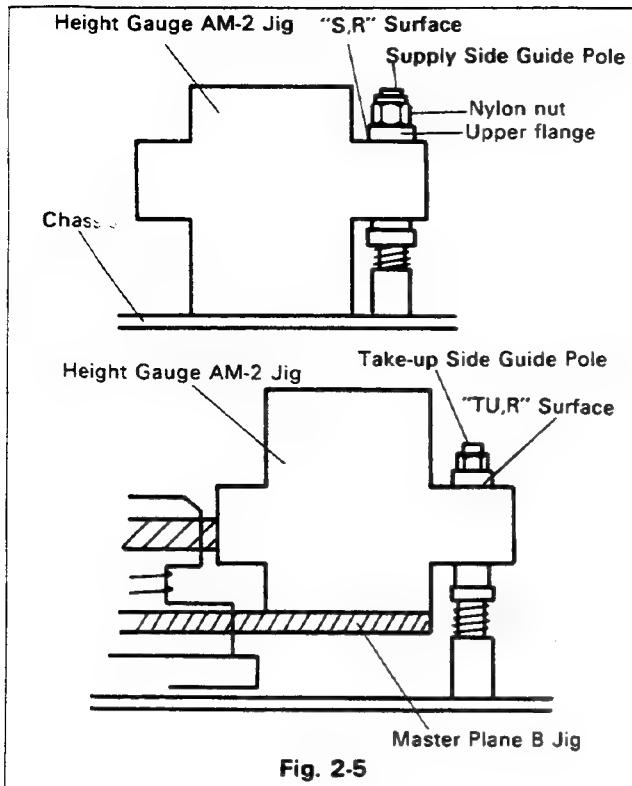

Fig. 2-5
(1) To adjust the height of supply-side guide pole, set the Height Gauge AM-2 Jig (J-12) on the chassis as shown in Fig. 2-5 and rotate the nylon nut to adjust to the height of the lower surface of the upper flange.
(2) To adjust the height of take-up side guide pole, place the Master Plane B Jig (J-13) on the chassis, and place the Height Gauge AM-2 Jig (J-12) on J-13 with the side marked "TU, R" facing up as shown in Fig. 2-5.